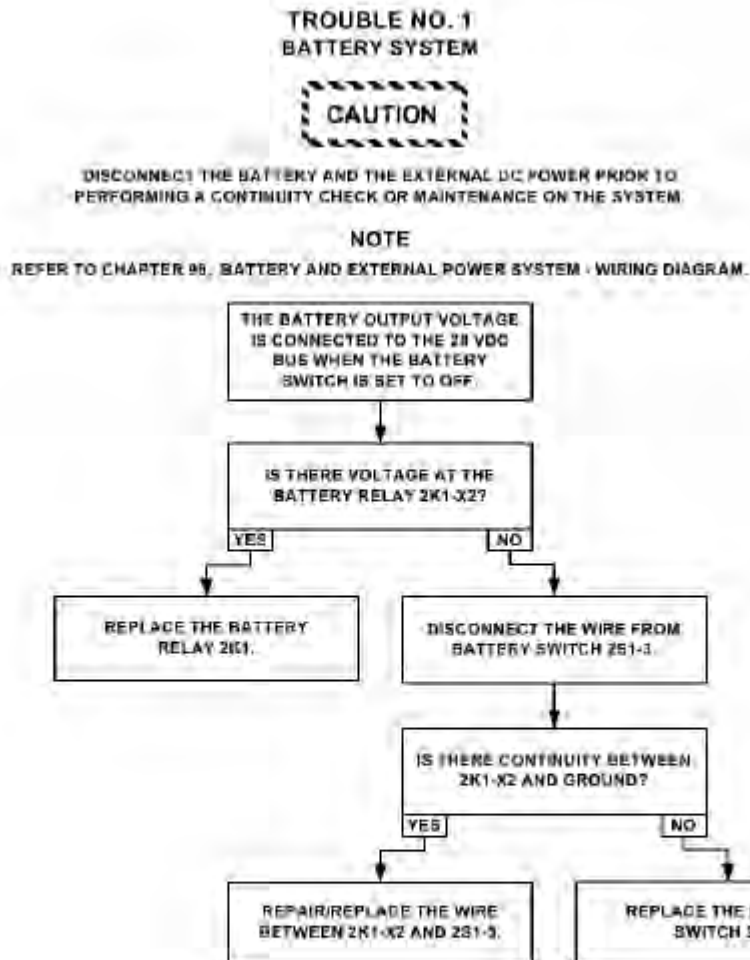

Figure 96-17: Battery System - Trouble No. 1
- If the voltmeter and warning horns operate (the battery output voltage is supplied to the 28 VDC bus), refer to Trouble No. 1 (Figure 96-17).
- If the voltmeter and warning horns operate (the battery output voltage is supplied to the 28 VDC bus), refer to the troubleshooting chart for Trouble No. 1 (Figure 96-17).